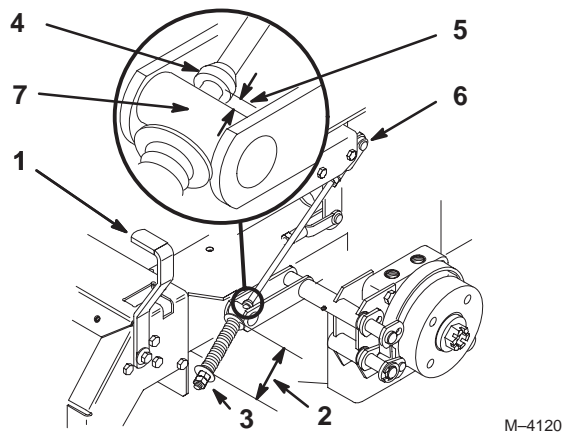

Figure 56
2. Measure the length of the spring. Measurement should be 2-3/4 inch (70 mm) between washers (Fig. 56).
3. If adjustment is necessary, loosen the jam nut below the spring and tighten the nut directly below the yoke (Fig. 56). Turn the nut until the correct measurement is obtained. Tighten the two nuts together and repeat on opposite side of unit.
6. Measure the distance between the trunnion roller and the collar on brake rod. Measurement should be 3/16 -1/4 inch (5-7 mm) (Fig. 56).
7. If adjustment is necessary, loosen the jam nut directly below the yoke. Turn the bottom adjusting nuts until the correct measurement is obtained (Fig. 56). Tighten jam nut at yoke